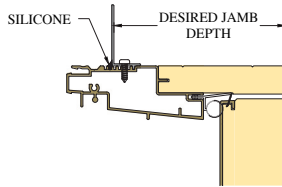

FIG. 9
- F) Apply sealant to the outside face of the nail fin. Tool in sealant to ensure no voids. (Fig. 9)